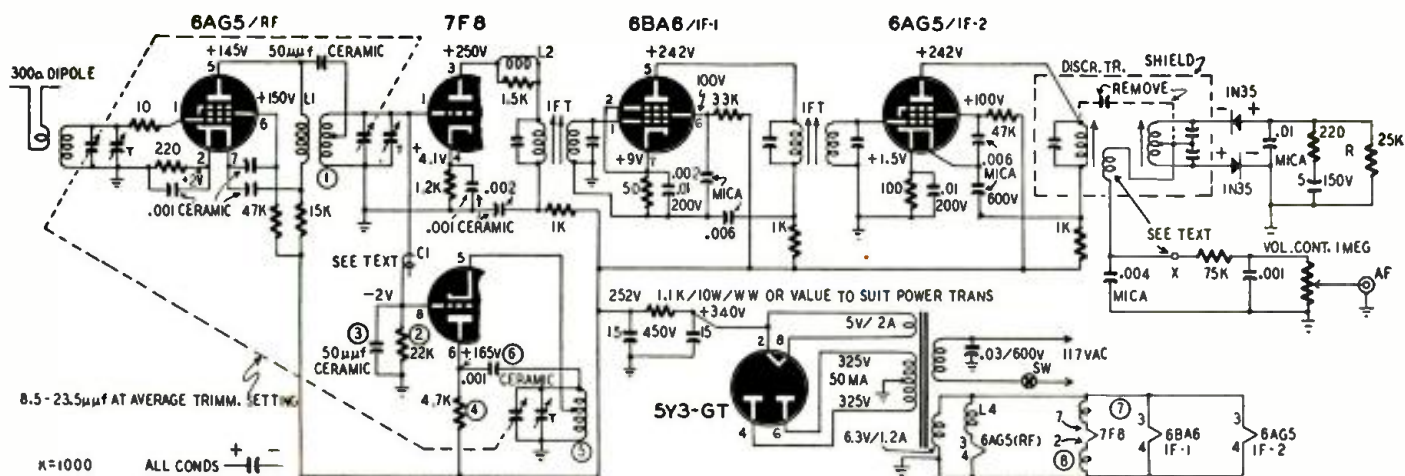

Fig. 1—The schematic. The 1N35 crystal is actually two 1N34's, carefully matched for equal output. Circled numbers refer to Fig. 2.
The complete circuit is shown in Fig. 1. The r.f. section is tuned by a three-gang variable capacitor. Each section has its individual trimmer. These are set initially at one turn from maximum-capacitance positions.
d.c. voltages should agree with those indicated in Fig. 1. Measure the oscillator grid voltage with a vacuum-tube voltmeter. Lack of oscillator grid voltage means an inoperative oscillator. This might be due to a bad tube, parts or wiring.